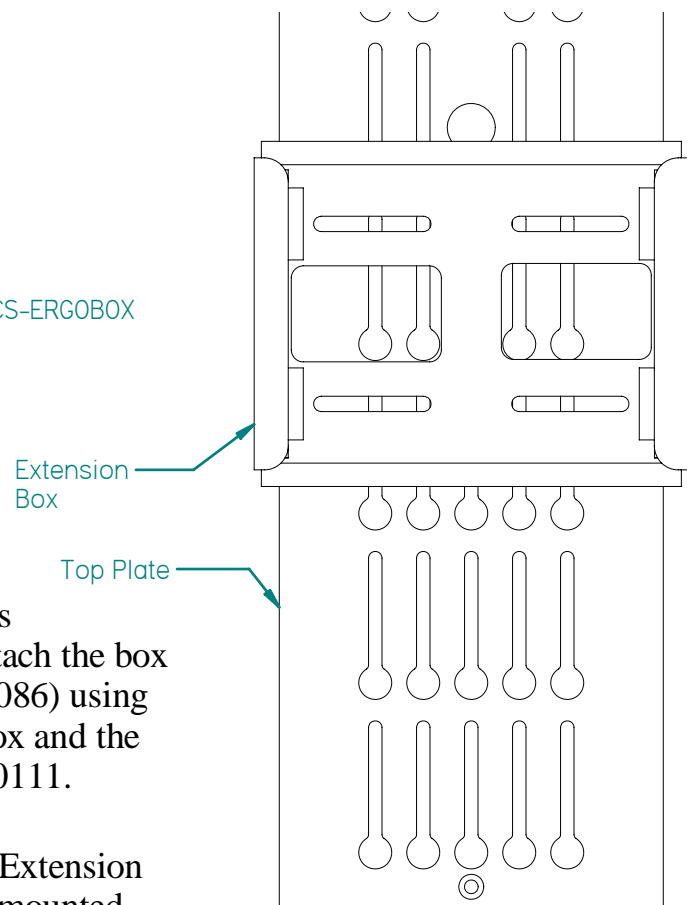

FIG. 2
3. For a discreet, low profile solution, the Extension Box can be used as a stand alone product mounted directly to a Gamber Johnson Top Plate using the included fasteners in hardware bag 7120-0111 (see FIG. 2).
ASSEMBLING MCS FACEPLATES TO CONTROL HEADS AND INSTALLING IN MCS CONSOLE BOXES (Refer to figures 2 & 3).
1. Install the faceplates on each control head as shown in figure 2. Adjust the faceplates so the mounting holes in the sides of the control head line up in the slots of the faceplate vertical offsets and so the desired amount of the control head will extend from the console. Make sure to allow enough room underneath for any connectors that may be required. Test the fit of each control head, the tallest heads may need to be installed near the higher end of the console.
3. Attach the MCS Console Box holddowns to the sides of the console box and over faceplates with (6) 10-32 x .38 Phillips head machine screws.